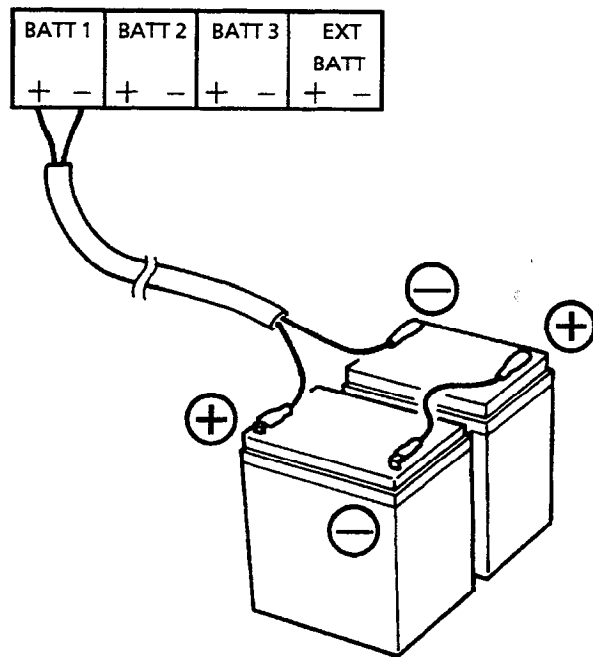

Figure 3-60 Connecting the Battery Cable to the Terminal Board
3. Connect the battery cord to the terminal board. Refer to Figure 3-60 - Connecting the Battery Cable to the Terminal Board.